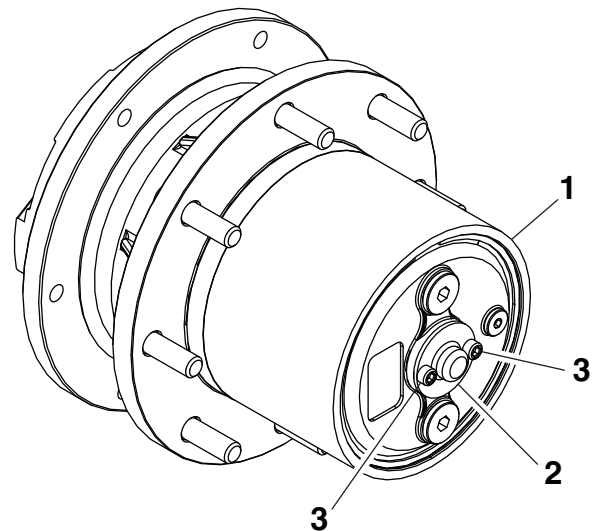

Figure 12
2. Remove and retain the bolts from the wheel motor (Figure 12).